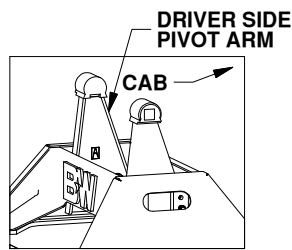
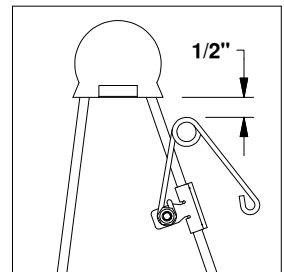

Figure C2: Base view.
Figure C3: Driver side pivot arm.
2. **Attach kit.** Locate the flange which will be closest to the truck cab on the driver side pivot arm, see Figure C2. The clip should be placed so that when the spring's coil is in the line with the edge of the arm there will be 1/2" of clearance between the bottom of the polyurethane bushing and the top of the spring, see Figure C3. Drive the clip securely onto the flange with a hammer.